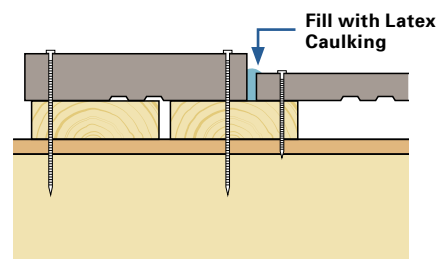

Fig. 20
- Use a high-quality clear or paintable latex caulking to fill all gaps and seal around doors, windows and anywhere the siding meets the trim. *(See Figure 20)*